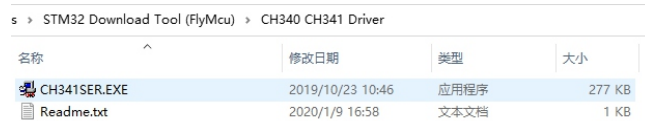

Figure 8 Double Click "CH341SER.EXE"
Step 1: Connect the USB communication port wire, double click the file "CH341SER.EXE" to install, as shown in **Figure 8**.